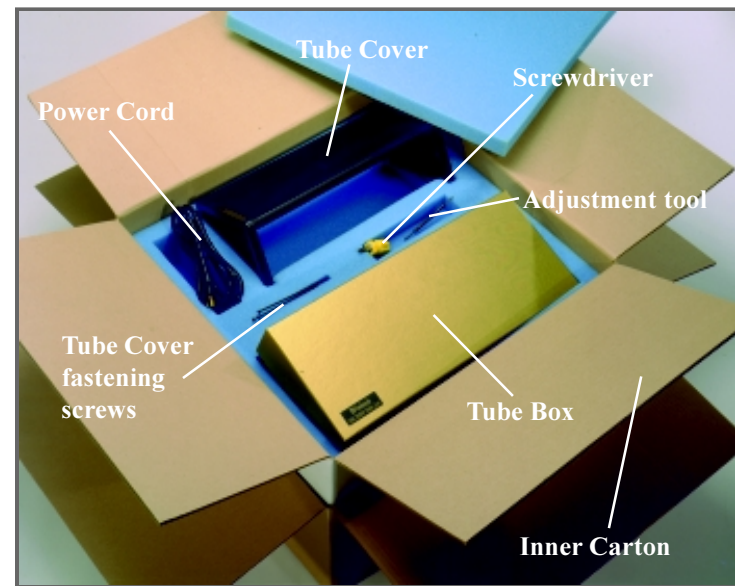

Figure 2
3. Open the inner carton. Refer to figure 2.